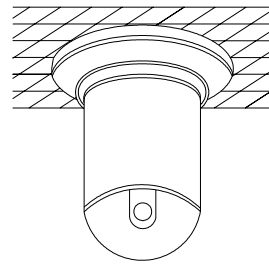

Figure 16
- 5) (Figure 16) shows the system is installed.